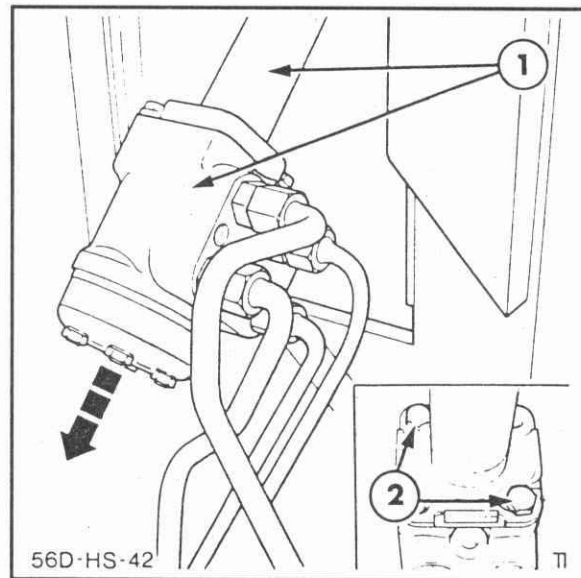

Figure 7-20
8. With a suitable container positioned to catch escaping steering oil, separate the steering tubes from the steering motor, Figure 7-20. Cap and seal the tubes using suitable plugs.